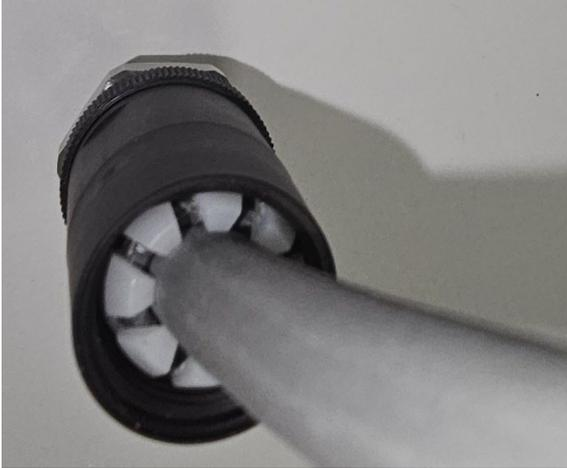

Figure 13
- [12] Slide gasket and clamping cage into housing. Gasket and housing should sit on insulated wires as shown in Figure 13. They **SHOULD NOT** sit on the smaller wires on the stripped portion of the cable.